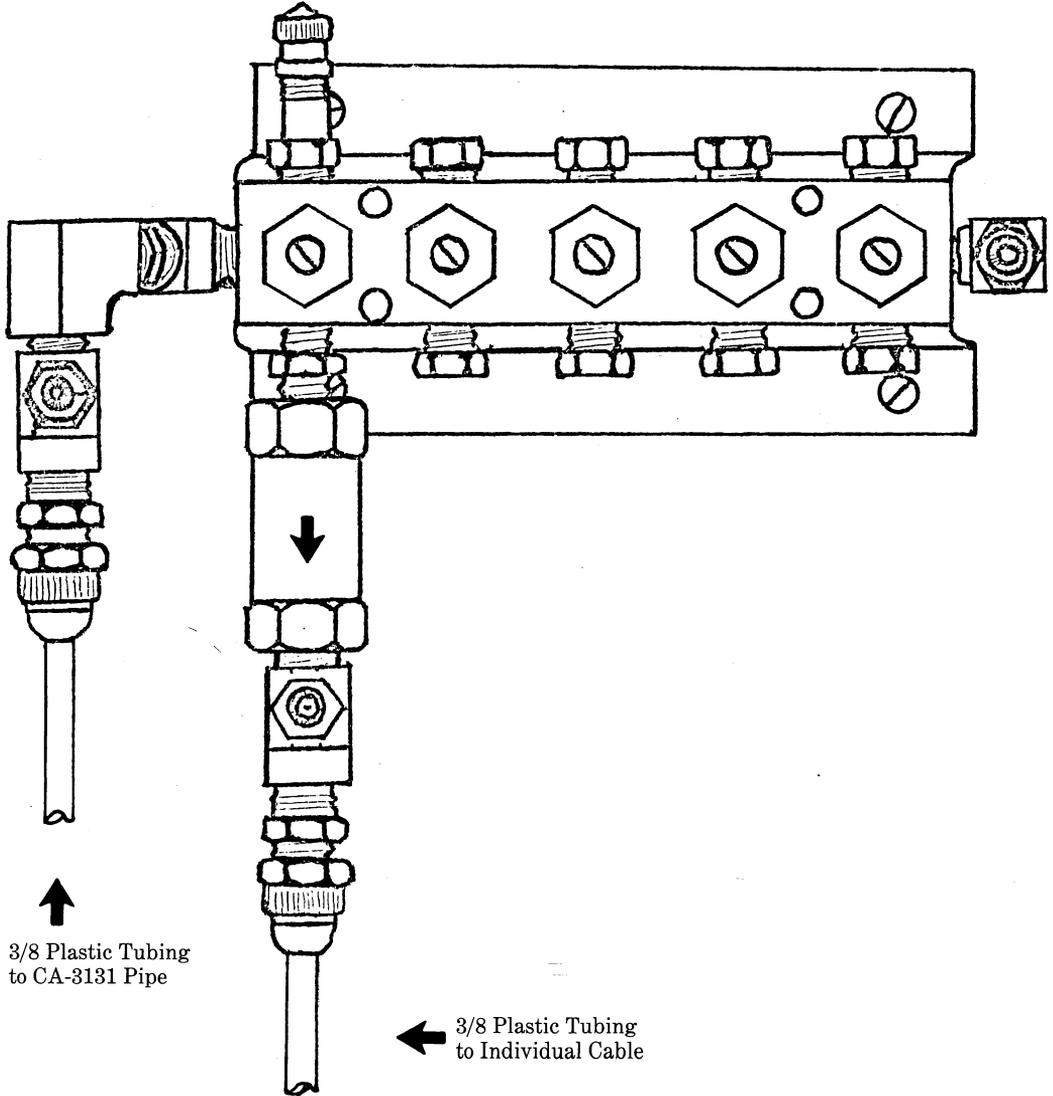

FIGURE 16
- (e) Add Part 10 and Figure 16 to provide installation information for installing C check valves on the cable side of manifold.
**10.01** The manifold assembly shown in Figure 16 is to be used when constructing new pipe routes
- (1) Mounting bracket kit GL 9359-80 may be used to attach manifold assembly to manhole wall.
- (2) All fittings and connections shall be assembled according to Figure 16, depending on the number of cables that are to be connected to the manifold.
- (3) Although it is not necessary to close the manifold shut-off control valves to prevent interflow between the cables, as stated in Paragraph 3.07, all shut-off control valves should be shut off until pressure is available and the feeder pipe connected. Open only those valves that are connected to cables.